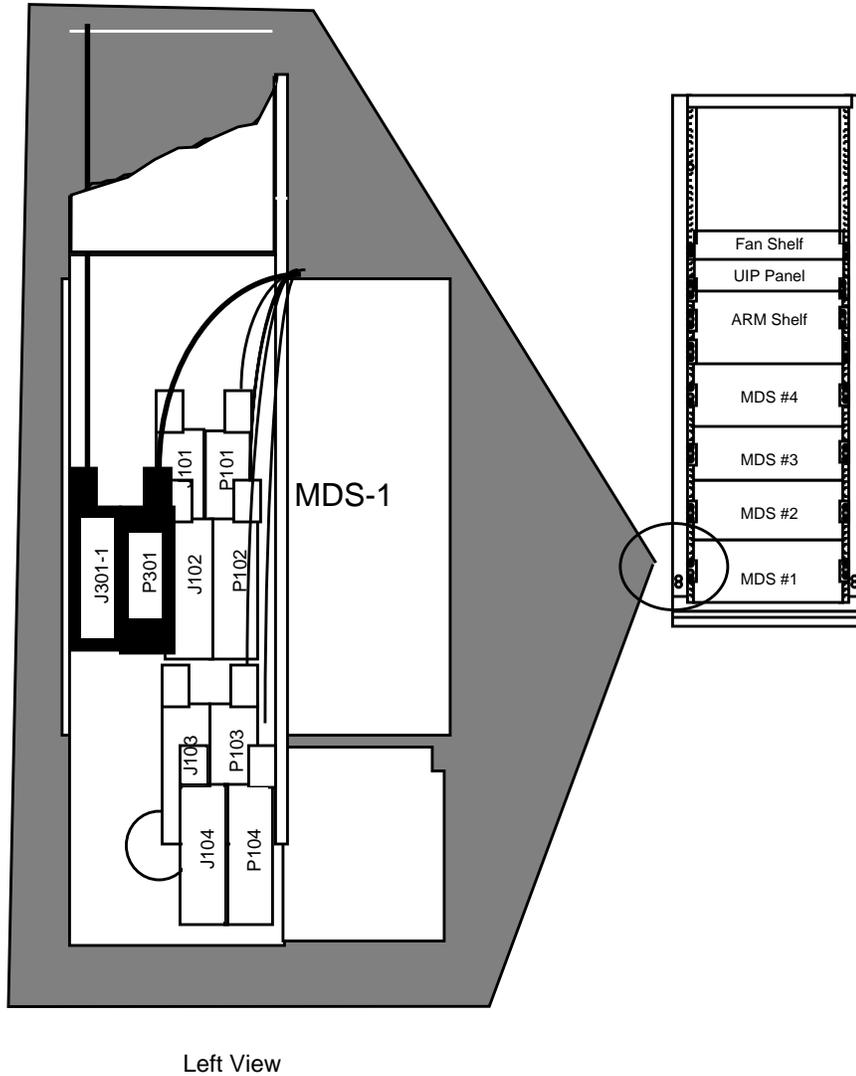

Figure 3-17. TAP Connection
Step 1: Refer to Figures 3-17 and 3-18 connect the TAP Interface cable assembly as follows in the left side cable duct: